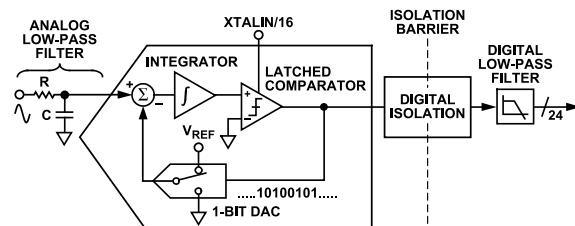
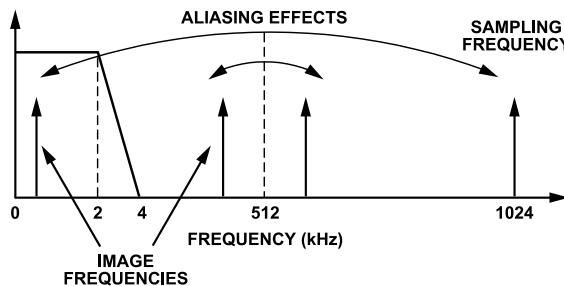

Figure 32. First-Order $\Sigma\Delta$ ADC
Figure 34. Aliasing Effects
The ADE9103/ADE9112/ADE9113 have three, second-order, multi-bit $\Sigma\Delta$ ADCs. For simplicity, the block diagram in Figure 32 shows a first-order $\Sigma\Delta$ ADC. The converter is composed of the $\Sigma\Delta$ modulator and the digital low-pass filter (LPF), separated by the digital isolation block.
Figure 32 shows an analog LPF (RC) on the input to the ADC. This filter is placed outside of the ADE9103/ADE9112/ADE9113, and its role is to prevent aliasing. Aliasing is an artifact of all sampled systems, as shown in Figure 34. Aliasing refers to the frequency components in the input signal to the ADC that are higher than half the sampling rate of the ADC and appear in the sampled signal at a frequency less than half the sampling rate. Frequency components more than half the sampling frequency (also known as the Nyquist frequency, that is, 512 kHz) are imaged or folded back down to less than 512 kHz, which happens with all ADCs, regardless of the architecture. In Figure 34, only frequencies near the sampling frequency of 1.024 MHz move into the bandwidth of interest for metering, that is, 40 Hz to 3.3 kHz, or 40 Hz to 2 kHz. To attenuate the high frequency noise (near 1.024 MHz) and prevent the distortion of the bandwidth of interest, a LPF must be introduced. It is recommended that one RC filter with a corner frequency of 7 kHz be used for the attenuation to be sufficiently high at the sampling frequency of 1.024 MHz. The 20 dB per decade attenuation of this filter is usually sufficient to eliminate the effects of aliasing.